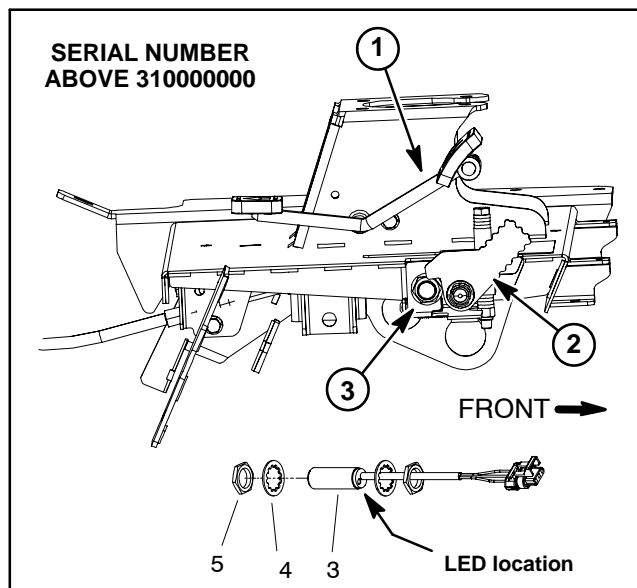

Figure 42
3. On machines with serial numbers above 310000000 (Fig. 42), test mow/transport switch as follows: